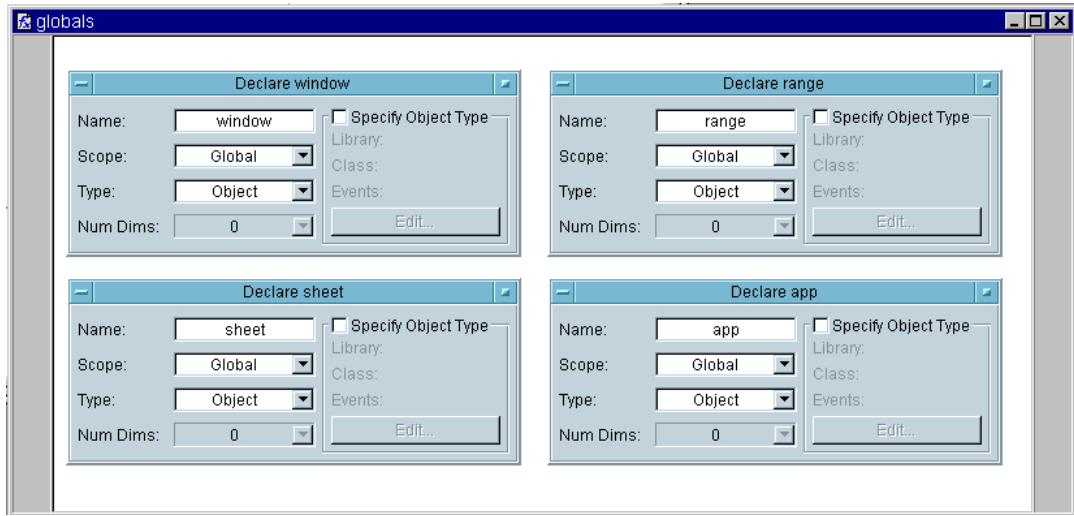

Figure 150 The Globals UserFunction
- 4 Clone this object three times, and rename the other objects as follows: `app`, `range`, and `window`. Size and move the `globals` UserFunction below `Main`. It should look like Figure 150.
- 5 After you have compared the entries to Figure 150, iconize the four objects.